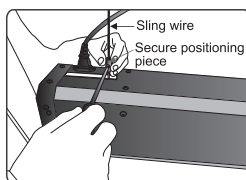

Figure 25
1. Housing retract limit uses touching switch, consists of secure positioning piece and secure positioning system.(refer to description at page 1) You just need to loosen the screw on the position piece and then fasten again after moving it to your desired position. (Figure 25)